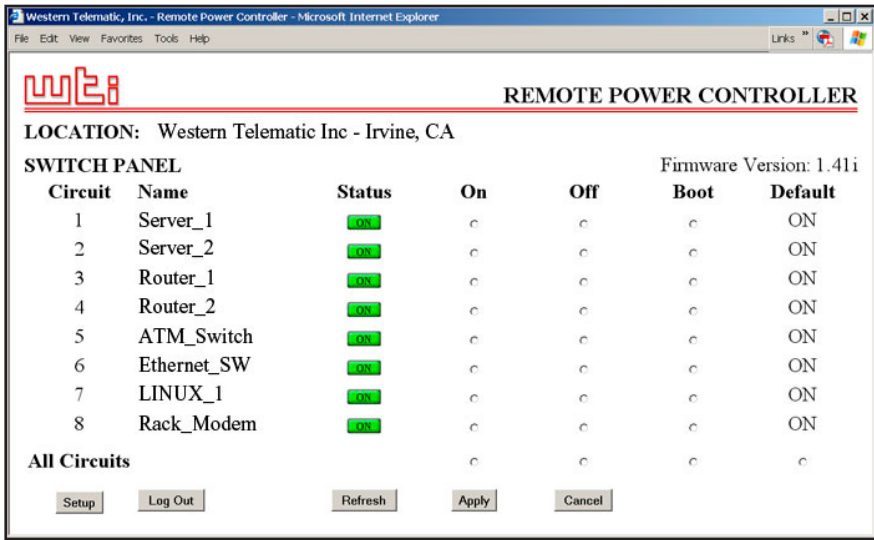

Figure 3.2: Circuit Status Screen - Web Browser Interface (Sample Values Show)
- a) **Web Browser Interface:** Start your JavaScript enabled Web Browser. Enter the RPC's default IP address (192.168.168.168) in your browser address bar and then press **[Enter]**. A password prompt will be displayed. Since at this point, the user name and password have not yet been defined, you can simply click OK without keying in a user name or password. The Circuit Status Screen will be displayed as shown in Figure 3.2.